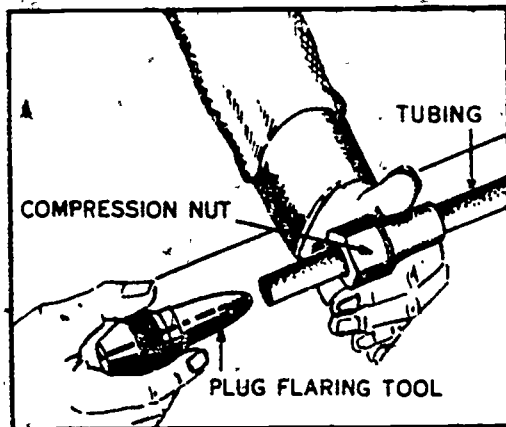
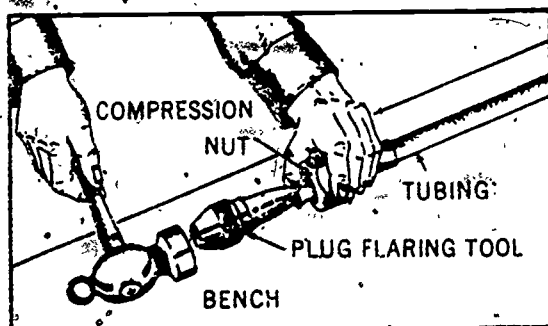

Figure 3-9 Putting the flare plug into the tubing.
Figure 3-10. Hitting the flare plug with a ballpeen hammer
b. Flaring copper tubing with a flaring plug. Flaring tubing with a plug type flaring tool forms the same type flare as that formed by the flaring block. As in the previous flaring method, the tubing must be cut the proper length and the burrs removed. Slip the compression nut over the end of the tubing and insert the plug type flaring tool into the end of the tubing, as shown in figure 3-9. Now, hold the tubing in your left hand and strike the end of the plug with a ball peen hammer, as shown in figure 3-10, until the desired flare is formed. It is important when you are making the flare on the tubing to check and be sure that you do not expand the flare larger than the inside of the compression nut. The flare should slip freely into the compression nut when it is properly formed.